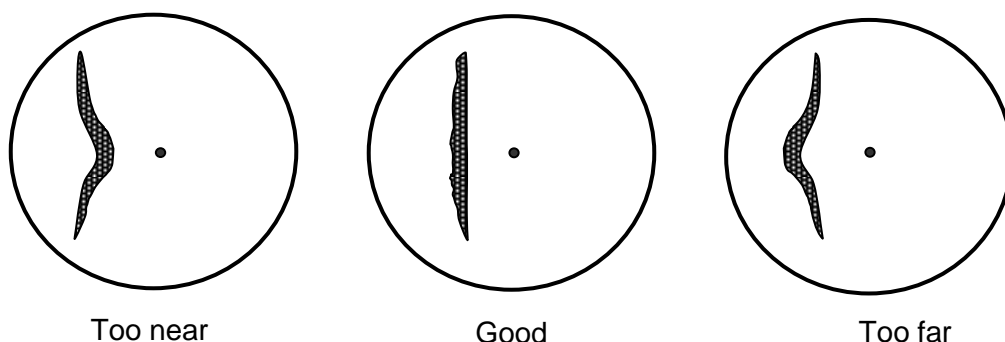

Figure 4.1 Picture display of Trigger Adjustment
- (3) Move the joystick up or down to adjust the value to get a straight picture of the straight object in the display as shown in Figure 4.1.
- (4) Press **ENT** key to save the adjustment result.